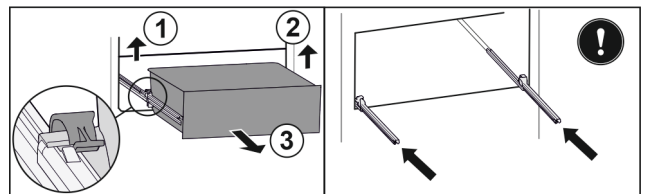

Fig. 100
- ▶ Lift left clamp and simultaneously pull drawer forwards on the left. Fig. 100 (1)
- ▶ Lift right clamp and simultaneously pull drawer forwards on the right. Fig. 100 (2)
- ▶ Remove drawer to the front. Fig. 100 (3)